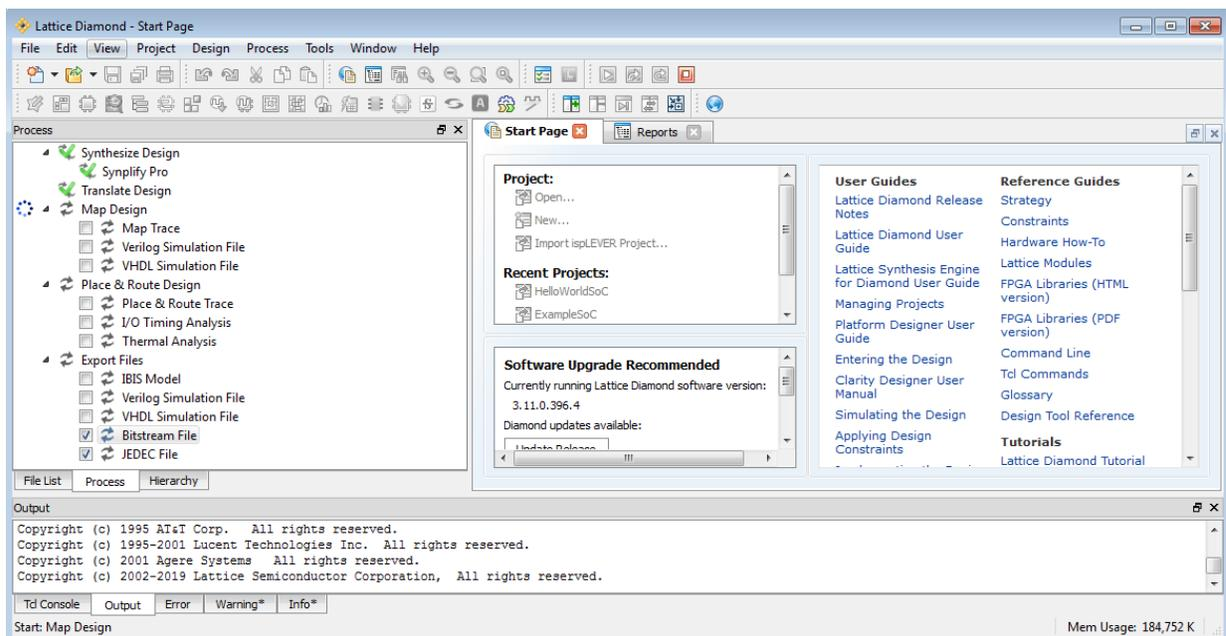

Figure 3.8. Generate Programming File
- Switch to **Process** view of the Diamond project (Figure 3.8). Make sure at least one programming file is checked in the **Export Files** section.